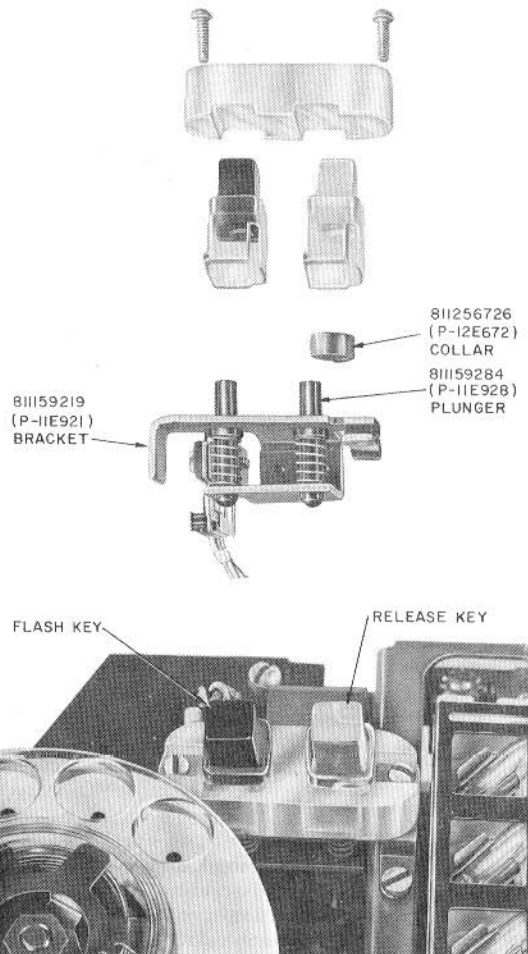

Fig. 27—811159872 (P-11E987) Switch Assembly
- (1) Remove faceplate assembly.
- (2) Remove two switch assembly screws (Fig. 27).
- (3) Remove button assembly.
- (4) Place 811256726 (P-12E672) collar around 811159284 (P-11E928) plunger (Fig. 27).
- (5) Reassemble switch assembly.